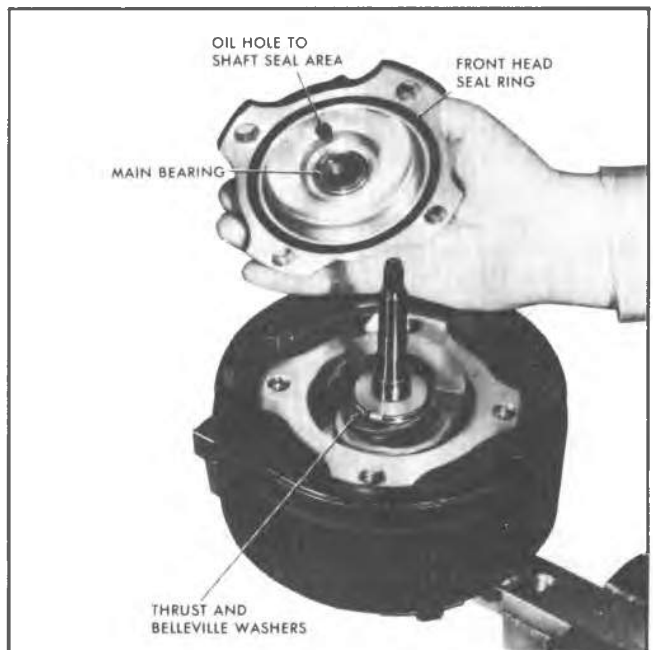

Fig. 86--Installing Front Head
seal ring (Fig. 86) or the Belleville and thrust washers may be replaced.
2. Dip new front head seal ring in 525 Viscosity oil and install seal in seal groove of front head (Fig. 86).